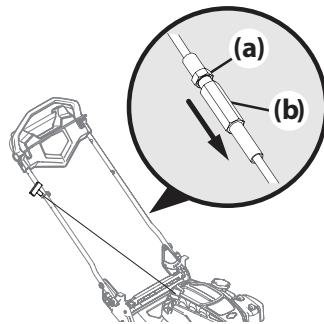

Figure 14
1. Weak drive. See Figure 14 -